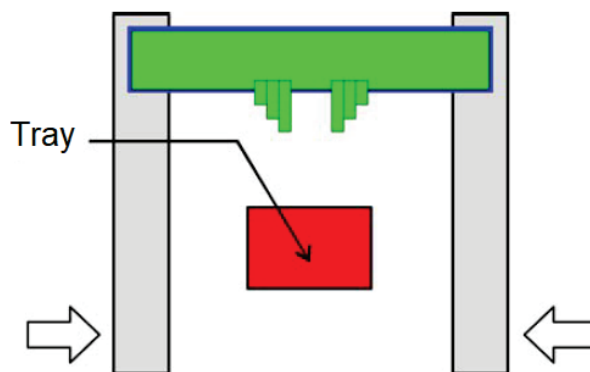

Figure 4 Lift elevation complete
3. After completing lift elevation, left and right squeezing plates squeeze in (Figure 4).